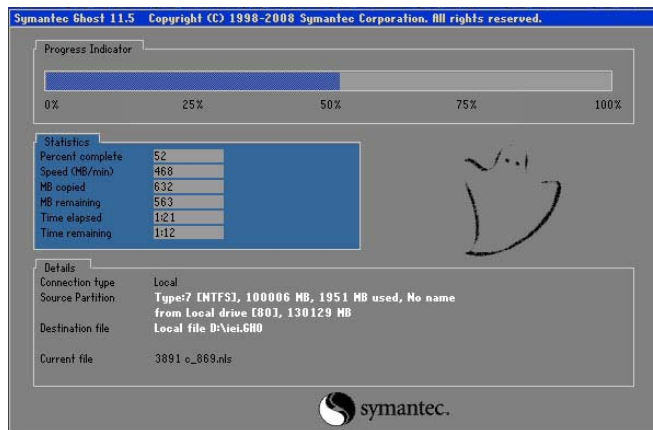

Figure A-19: Image Creation Process
Step 10: The Symantec Ghost starts to create the factory default image (**Figure A-19**).